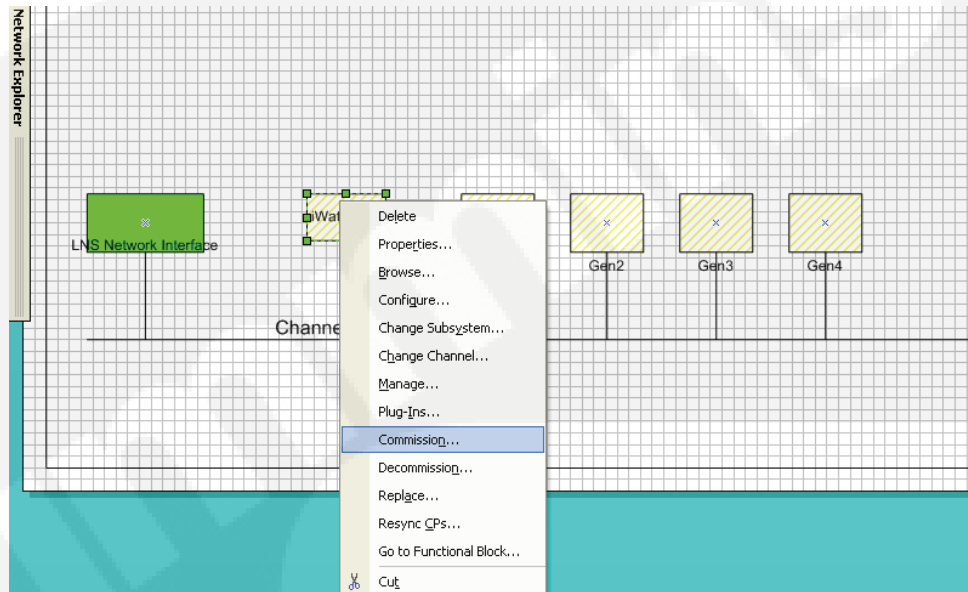

FIGURE 4-30. COMMISSIONING THE *i*.LON 100
1. Right click on the PowerCommand iWatch 100 device, and select **Commission** from the menu (see Figure 4-30).